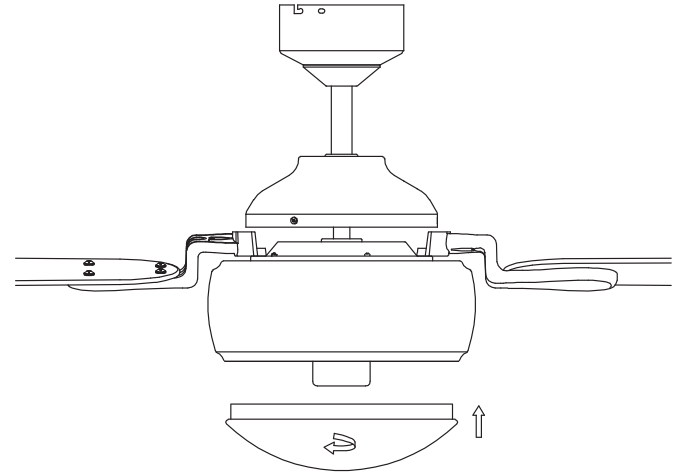

Fig. 18
Step 1. Raise glass shade to fan and then turn glass clock-wise until it is firmly secured. (Fig. 18)